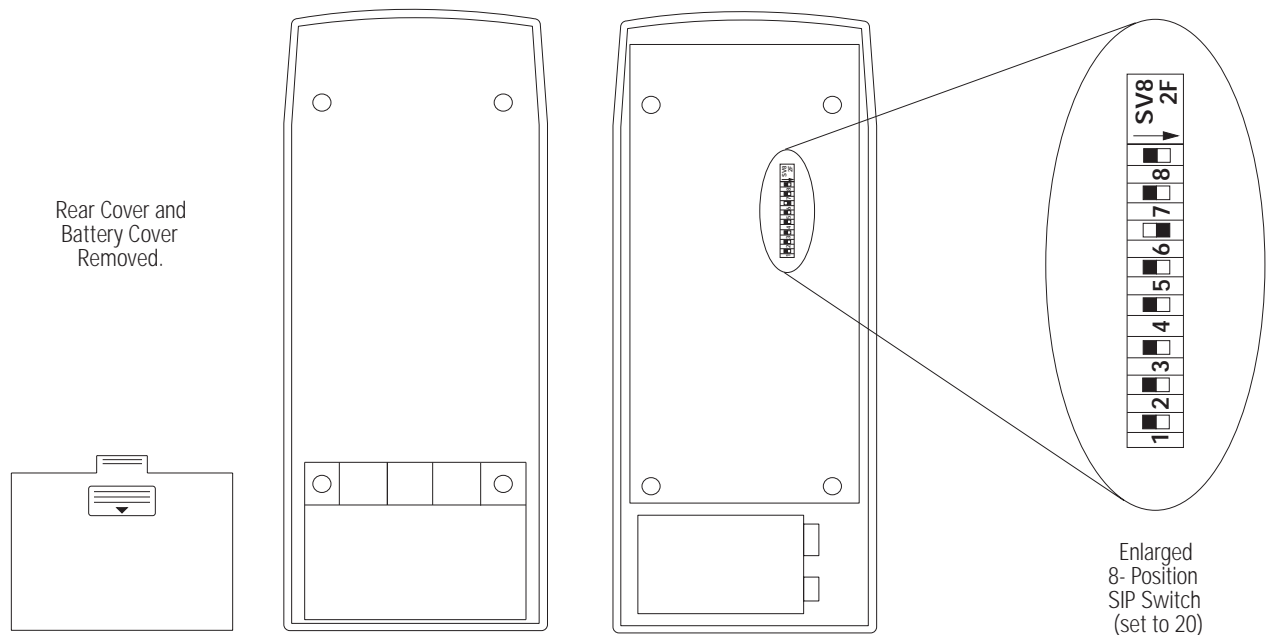

Figure 3. SIP Switch Location
5. Refer to figure 3 and locate an eight-position SIP switch on the printed circuit board. Switches labeled 1 through 4 represent the least-significant digit or letter of the ID CODE. Switches labeled 5 through 8 represent the most-significant digit or letter of the ID CODE.